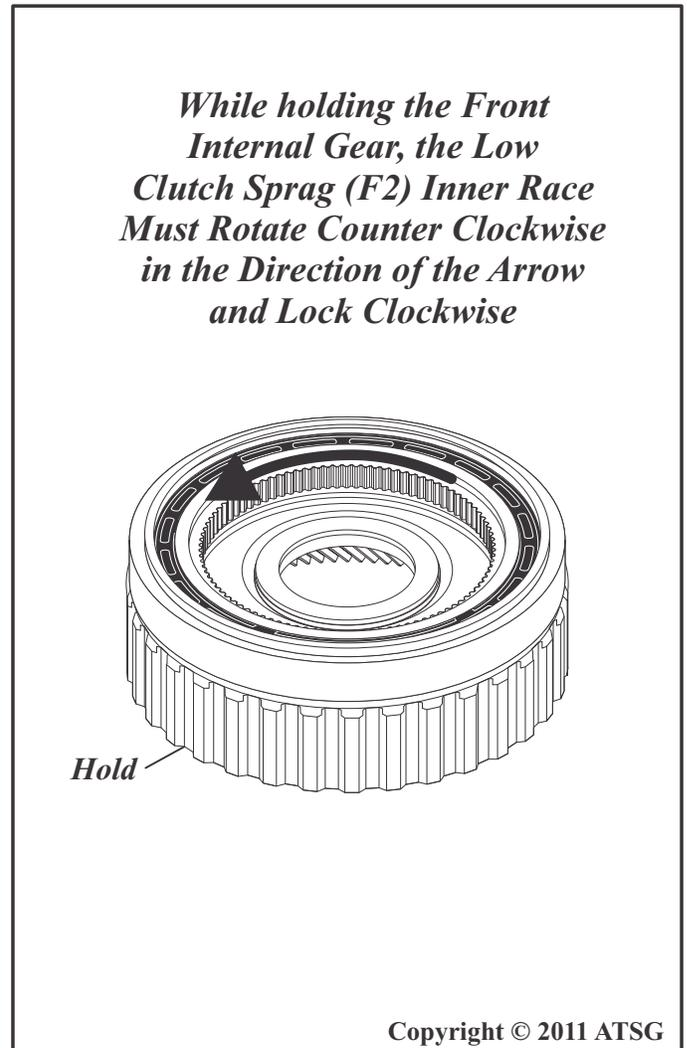

Figure 146
12. Assembly as shown in Figure 146. The Low Clutch Sprag (F2) Inner Race must **Rotate Counter Clockwise and Lock Clockwise**.